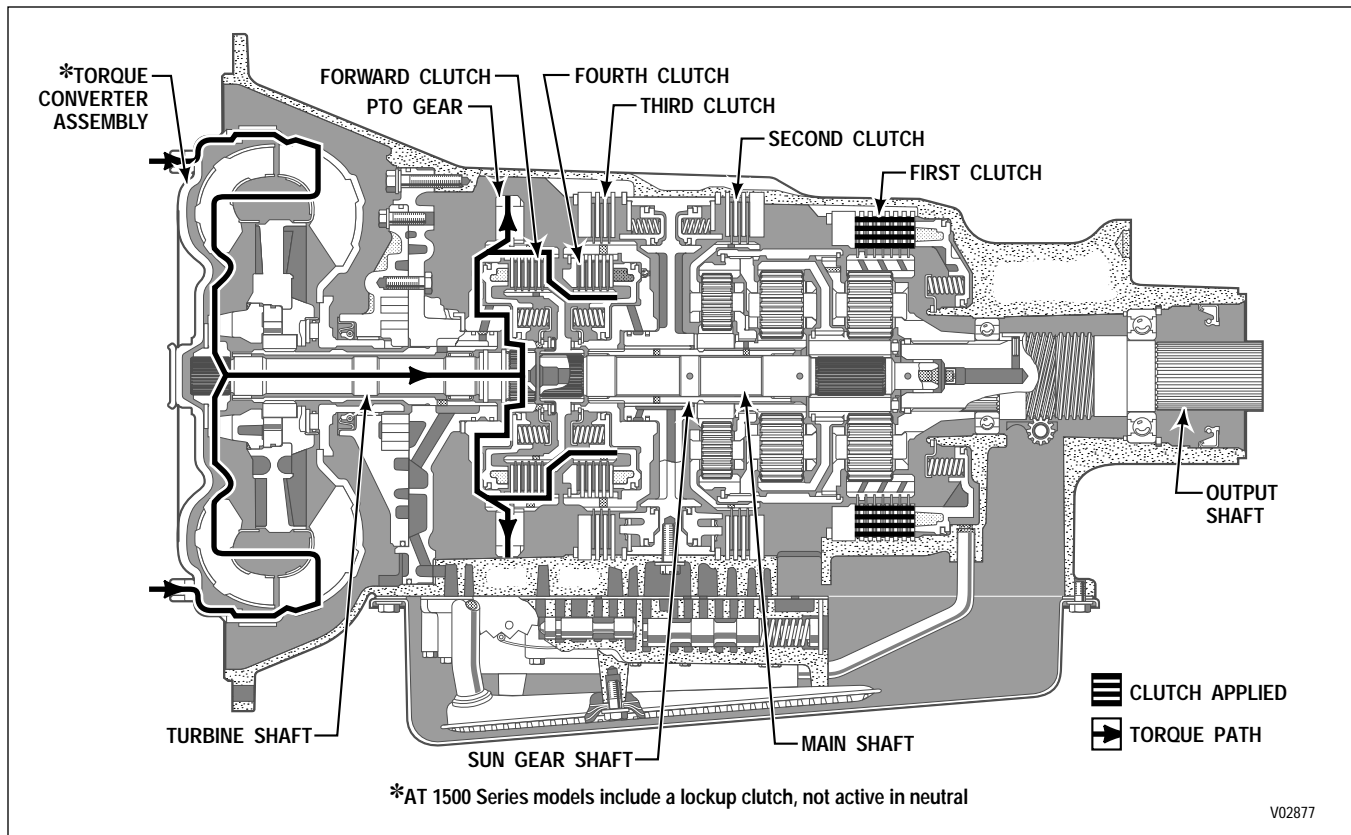

Figure 2-1. Neutral Power Flow
b. Neutral Operation (Figure 2-1)
(1) Torque produced in the torque converter is not transmitted beyond the turbine shaft and forward clutch housing assembly. Only first clutch is applied. Because two clutches must be applied to produce output shaft rotation, no output rotation occurs.
(2) For AT 1500 Series models, the lockup clutch does not apply during neutral operation.